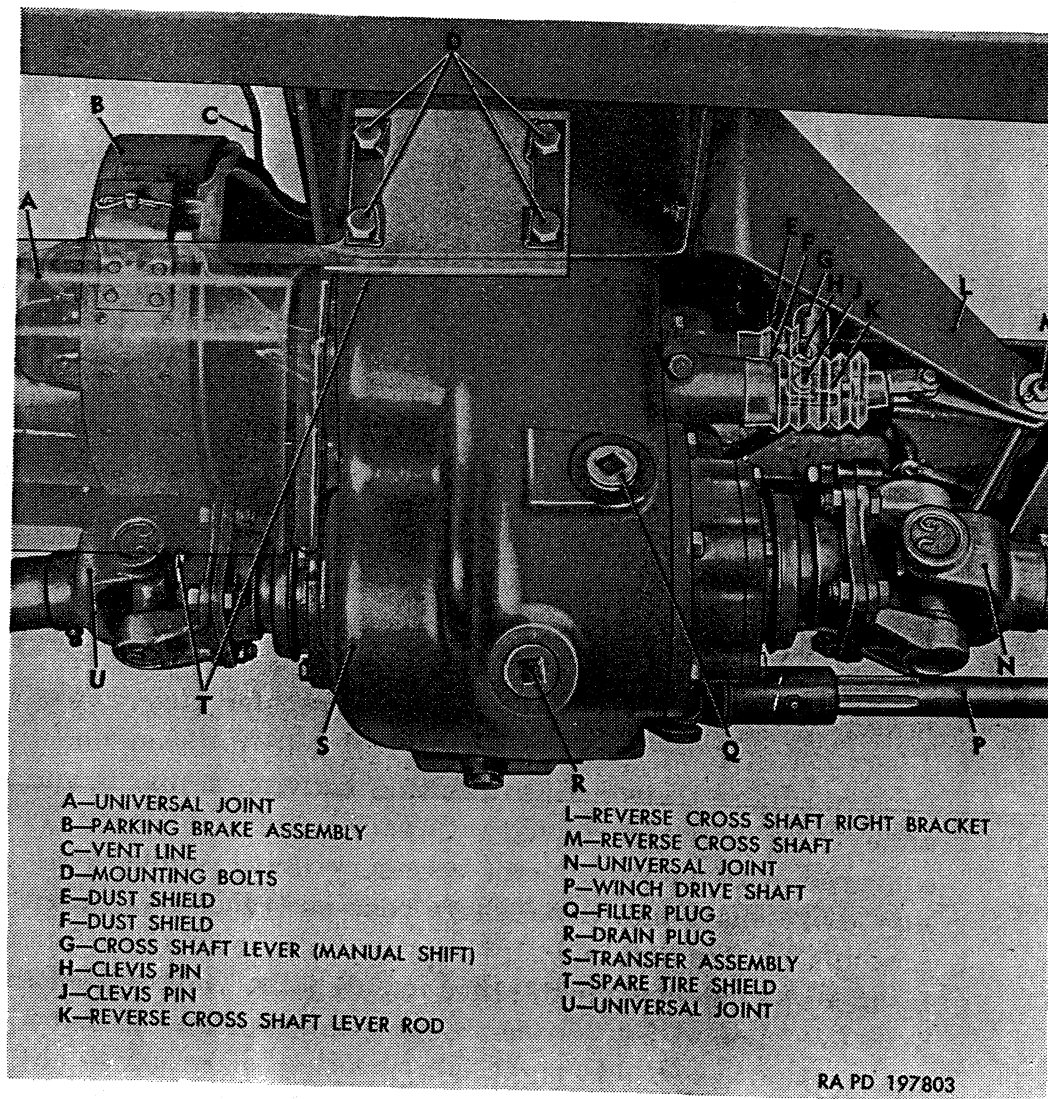

Figure 217. Transfer installed.
- (a) Remove clevis pins (BB and JJ) at each end of transfer reverse rod (M); then remove rod.
- (b) Remove front and rear dust shield clamps (U and X) on reverse shifter shaft dust shield (Z). Slide dust shield toward front.
- (c) Remove cotter pin from clevis pin (W), then remove clevis pin.
- (d) Remove cotter pin and plain washer from right end of reverse cross shaft (M, fig. 217).
- (e) Remove two bolts (P) attaching reverse cross shaft left bracket to transmission rear support. Remove reverse cross shaft and bracket assembly.
- (b) Slide right end of reverse cross shaft into right support bracket (L, fig. 217). Install two  $\frac{5}{16}$ -24 x  $\frac{7}{8}$  bolts (P) and  $\frac{5}{16}$ -24 locknuts which attach reverse cross shaft left support bracket to transmission rear support. Tighten locknuts to  $9\frac{1}{2}$  to 13 pound-feet torque.
- (c) Place  $1\frac{7}{32}$ -inch plain washer on right end of reverse cross shaft; then install  $\frac{1}{8}$  x  $\frac{7}{8}$  cotter pin through end of reverse cross shaft (M, fig. 217).
- (d) Connect transfer reverse rod (M) to transmission shift lever (K) with  $\frac{3}{8}$ -inch clevis pin (JJ). Install  $\frac{3}{32}$  x  $\frac{5}{8}$  cotter pin through end of clevis pin. Do not connect adjustable end of rod at this time.
- (e) Adjust forward and reverse shift linkage (par. 202*c*); then install  $\frac{3}{8}$ -inch clevis pin (BB). Secure clevis pin with  $\frac{3}{32}$  x  $\frac{5}{8}$  cotter pin.
- (f) Position reverse shifter shaft dust shield (Z) over clevis yoke and shifter shaft; then install and tighten front and rear dust shield clamps (U and X).
(fig. 217)